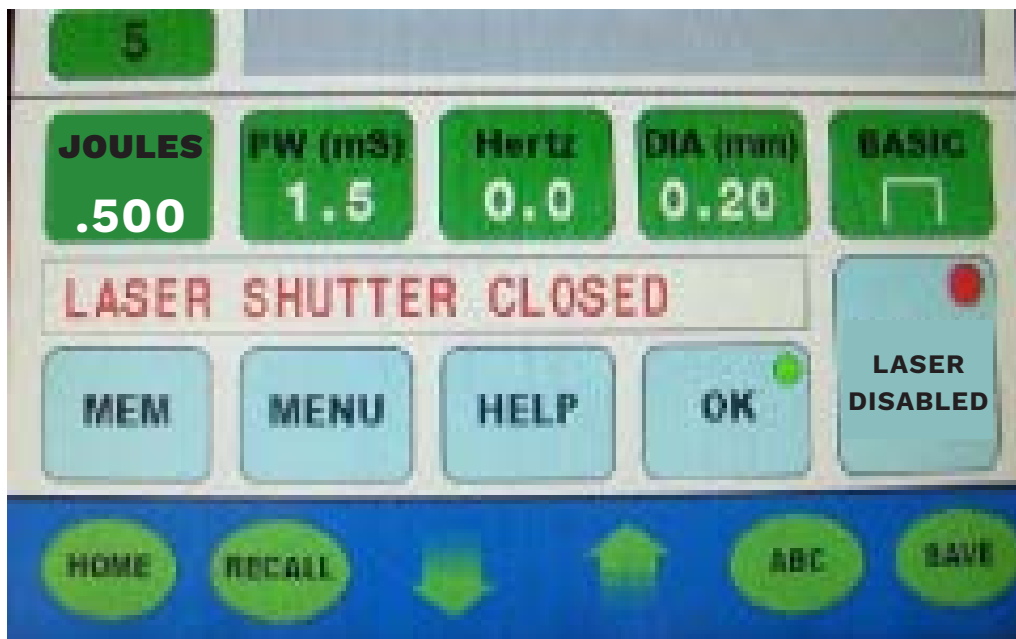

Figure 1
While password protection is enabled, the selectable options on the touchscreen display are restricted; the following buttons remain active (figure 1).
5. Press the **menu button** on the password screen to enter the password and return to the main screen (**figure 1**); password protection is disabled.